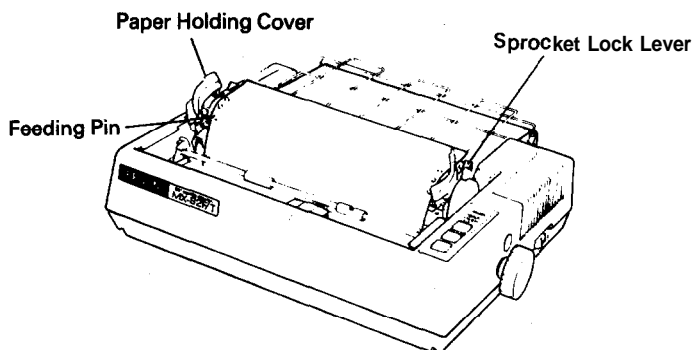

Fig. 31 Raising of Sprocket Lock Levers
8. Raise the two sprocket lock levers to loosen, and adjust the sprocket pin position to the paper width. (See Fig. 31)